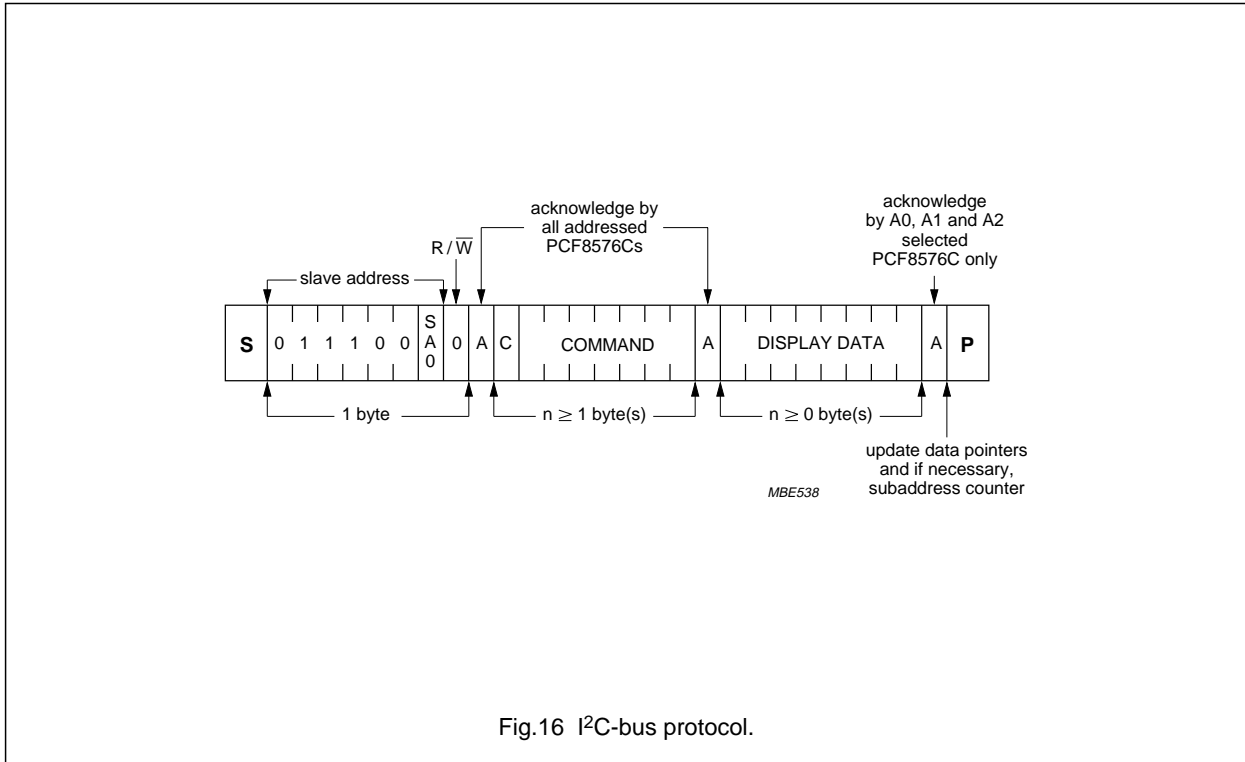

Fig.16 I2C-bus protocol.
The I2C-bus protocol is shown in Fig.16. The sequence is initiated with a START condition (S) from the I2C-bus master which is followed by one of the two PCF8576C slave addresses available. All PCF8576Cs with the corresponding SA0 level acknowledge in parallel with the slave address but all PCF8576Cs with the alternative SA0 level ignore the whole I2C-bus transfer.